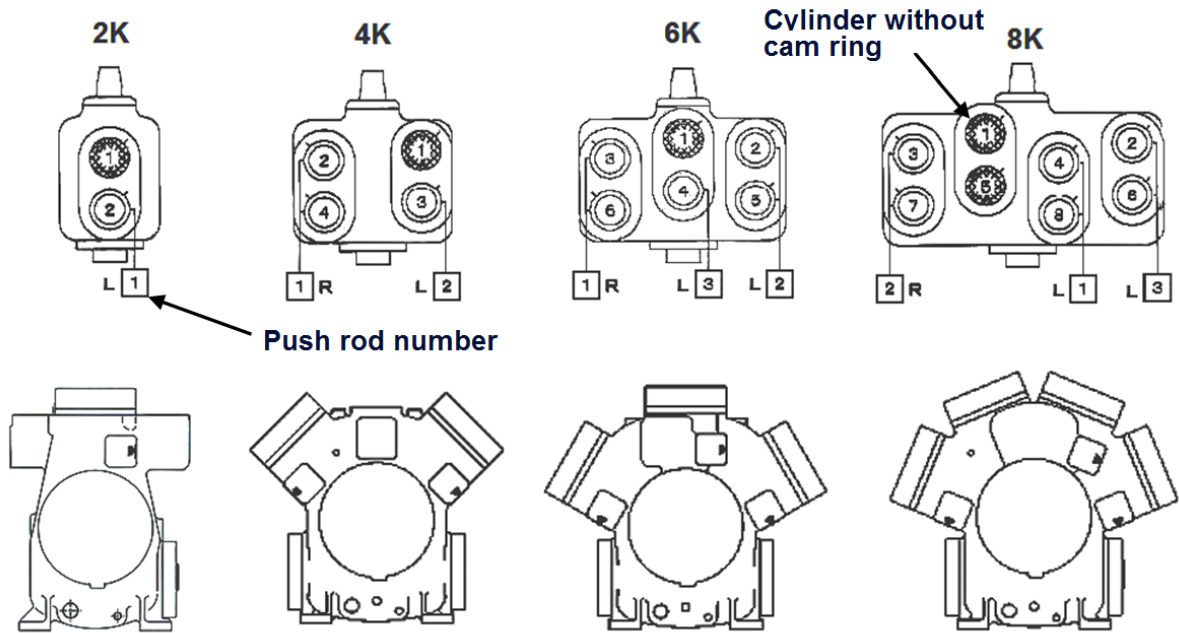
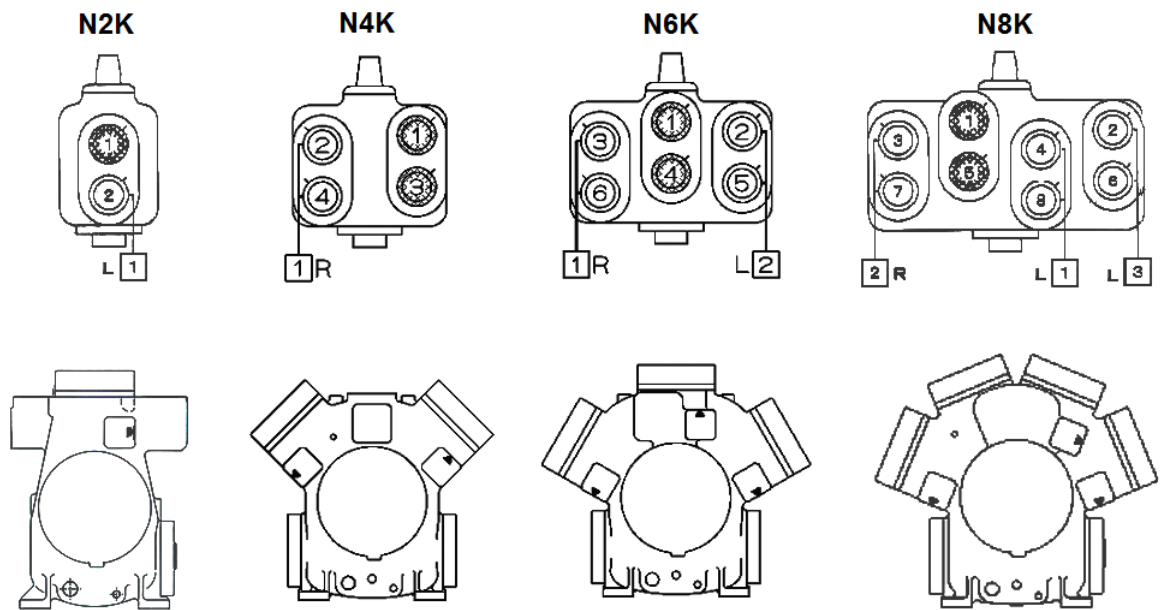

Figure 5-9 Marking (▼) of the unloader cover mounting position (for fluorocarbon refrigerants)
Figure 5-10 Marking (▼) of the unloader cover mounting position (for ammonia refrigerants)
- In the case of K-series compressors to use ammonia refrigerant, there are some banks that are not implemented with the unloader mechanism. Because the same crankcase is used for the K-series compressors to use fluorocarbon refrigerants, an unloader cover with an oil supply hole (without a solenoid valve) is used even if the bank does not have an unloader mechanism. If the unloader cover of such a bank (without a solenoid valve) is opened, aligning the gasket to open the oil supply path can cause oil loss (i.e., increases oil consumption). As such, be sure to shift the position of the cover and gasket on the crankcase to block the oil supply path. Check the correct position by referring to the unloader cover (gasket) position markings shown in Figure 5-9 and Figure 5-10 in the next page.**